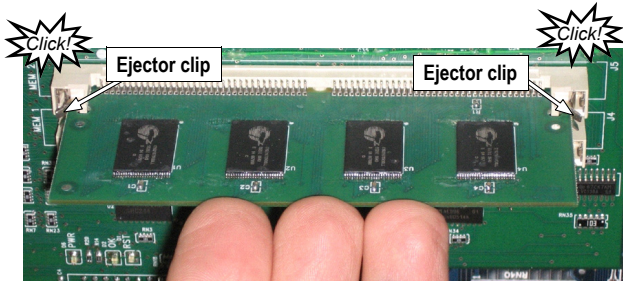

Fig. 4: Seat the module.
**Seat Memory Module:** Gently pull the module to the front of the enclosure (towards you) until the "ejector clips" at each end of the socket "click" into place, securing the module (see Fig. 4, below).